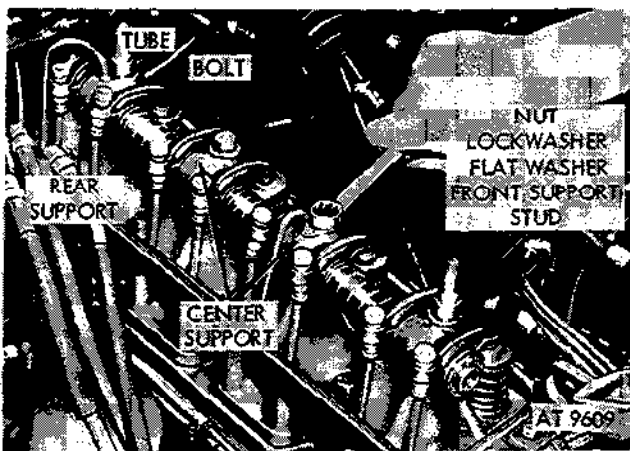

Figure 2-62. Remove bolts from center supports.
(12) Loosen two bolts securing the two rocker arm shaft center supports. Leave bolts in place (fig. 2-62).
(13) Remove nut, lockwasher and flat washer from rocker arm shaft front support stud (fig. 2-62).
(14) Remove nut, lockwasher, oil inlet tube bracket and oil inlet tube from rocker arm shaft rear support (fig. 2-62).